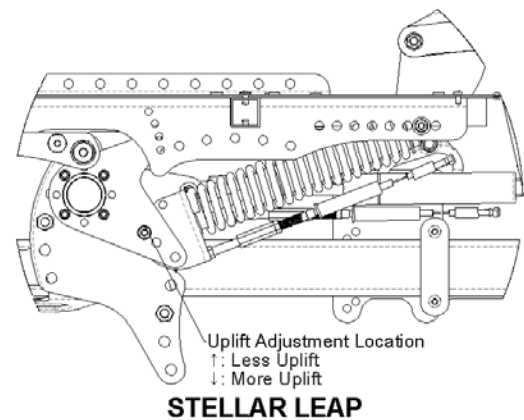

Figure 10.29: *Uplift adjustment*
If the wheelchair occupant feels ‘heavy’ when attempting to restore the wheelchair to a seat level position, the gas strut attachment points should be moved down. (See Figure 10.29)
If the wheelchair occupant feels ‘too light’ or if the attendant has to use force to push the Seat Assembly in to tilt when activating the tilt mechanism, the gas strut attachment points should be moved up. (See Figure 10.29)
1. Determine whether you wish to move the gas strut upward or downward (see Figure 10.29). Determine if the desired adjustment is possible (you may have already set the chair at maximum or minimum ‘lift’.